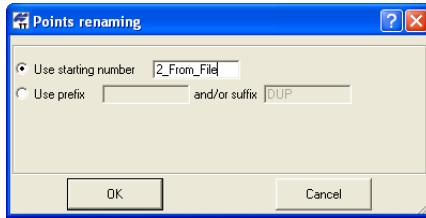

Figure 5-22. Points Renaming Window
- Then the *Points renaming* dialog box will display (Figure 5-22)